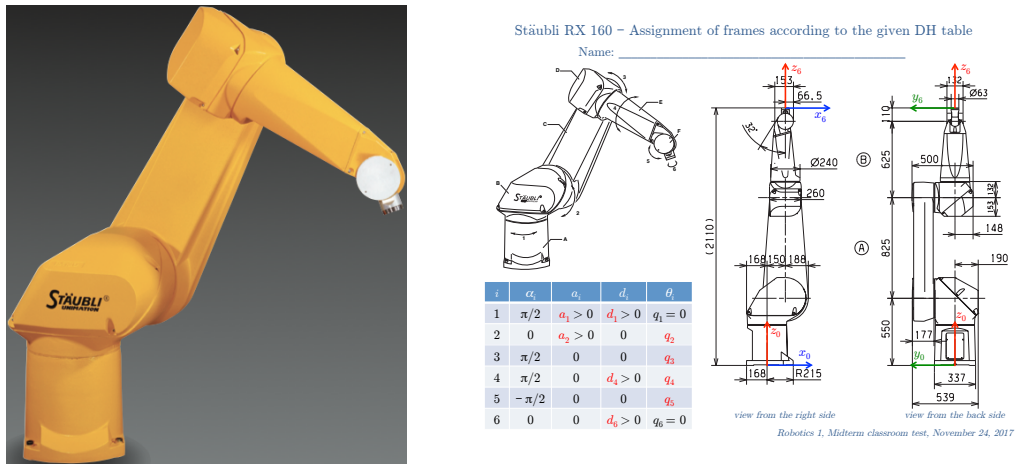

Figure 3: The Stäubli RX 160 robot manipulator and the extra sheet (provided separately).
Consider the 6-dof robot Stäubli RX 160 in Fig. 3. In the extra sheet provided separately, the Denavit-Hartenberg (DH) table of parameters is specified, in part numerically and in part symbolically. The two DH frames 0 and 6 are already drawn on the manipulator (in two views). In the shown ‘straight upward’ robot configuration, the first and last joint variables take the values  $q_1 = q_6 = 0$ . Draw directly on the extra sheet the remaining DH frames, according to the DH table. Provide all parameters labeled in red in the table, i.e., the missing numerical values of the constant parameters and of the joint variables  $q_2$  to  $q_5$  when the robot is in the ‘straight upward’ configuration. [Please, make clean drawings and return the sheet with your name written on it.]